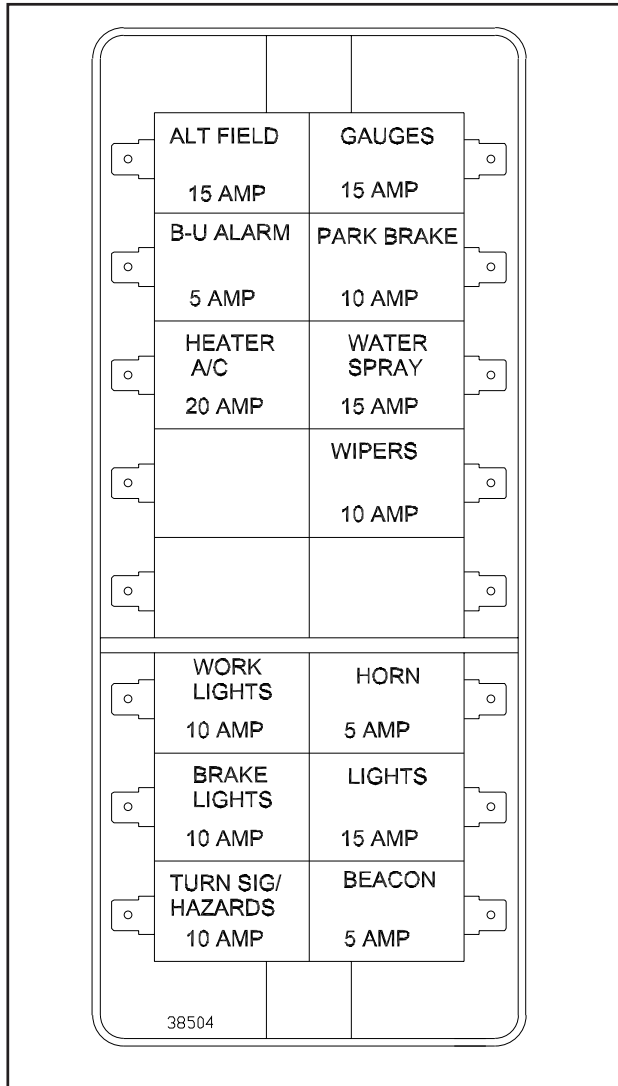

FIGURE 4-5. FUSE REPLACEMENT SIZES
Fuses that blow may be replaced but will continue to blow until the cause of the overload is found and corrected. Refer to Figure 4-5 for replacement fuse sizes.
- a. Check the fuse panel located in the front of the instrument panel for a blown fuse. See Figure 4-5 for replacement fuse sizes.